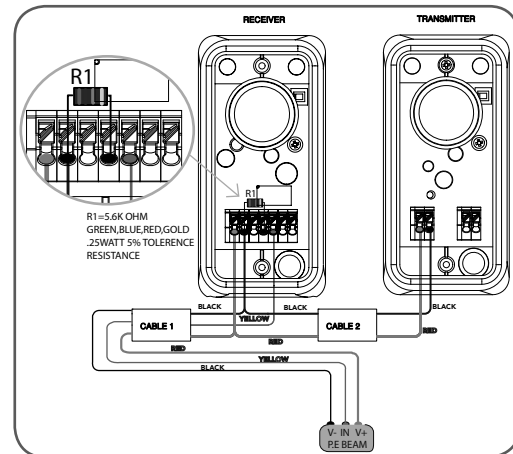

fig 55
- Connect the wires from the PE Beams wiring harness to terminal block (**Fig. 55**). The wiring diagram is for Model PE-2000TS (Order Code 61903).
WARNING: Install the PE Beams as per diagram in (**Fig. 55**). **Tampering with** PE Beams could result in serious personal injury and/or property damage and will void the warranty.